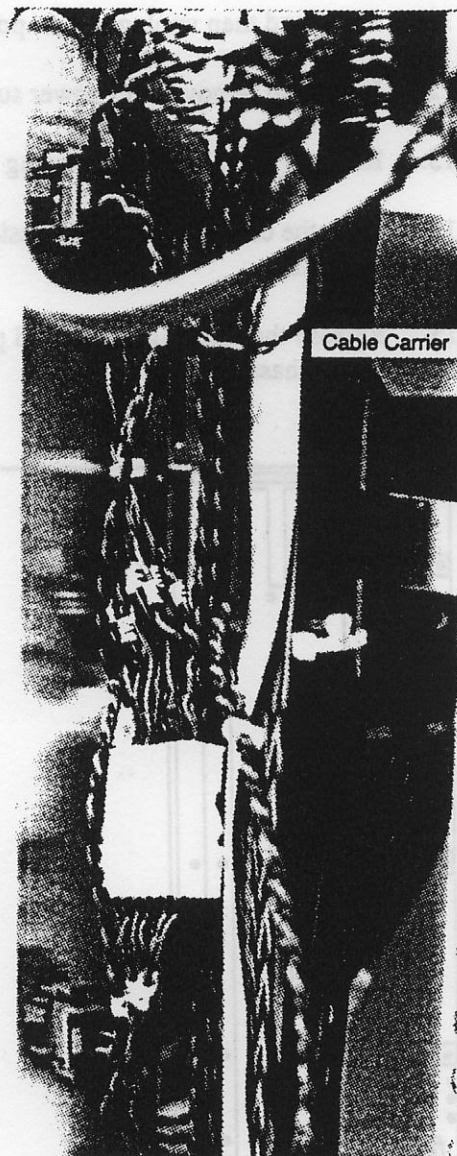

Figure 7-21. CPU Card Cage Power Plugs and Wireway Cable Carrier
10. Remove the four screws retaining the wireway cable carrier bracket. Refer to Figure 7-21.